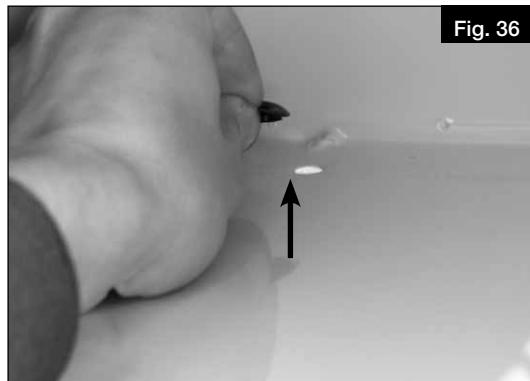
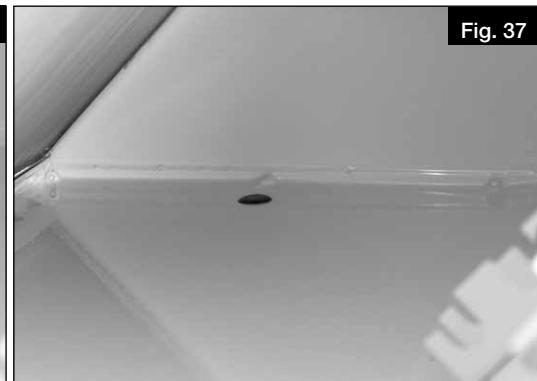

Fig. 36
Fig. 37
- ① **If the cold recovery system is activated, the plug at the bottom of the unit must be removed (see Fig. 36, Fig. 37) to ensure the condensate drainage (cf. also chapter 4.4 „Install ball siphon“, page 12).**